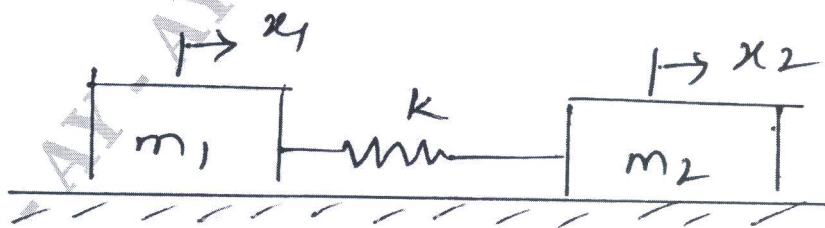

Fig.Q6(b)
b. For the system shown in Fig.Q6(b). Find the natural frequencies and amplitude ratio. Given  $m_1 = 10 \text{ kg}$ ,  $m_2 = 15 \text{ kg}$  and  $K = 320 \text{ N/m}$ .